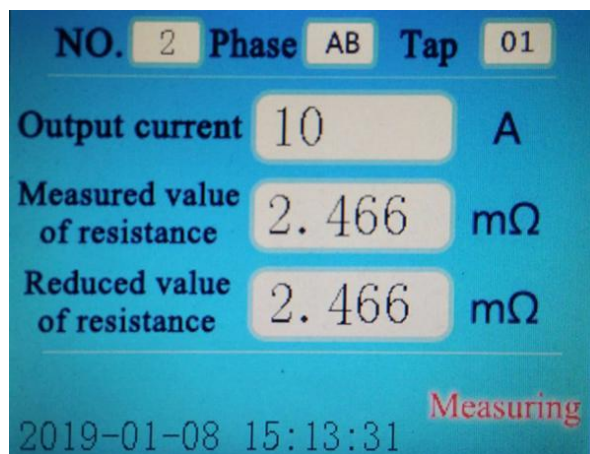

Figure 3
2) After selecting the current, press the start button to start charging. LCD display "charging". After a few seconds, "Testing" is displayed, indicating that the charging is completed and the test state is entered. After a few seconds, the test results will be displayed, as shown in figure 3: